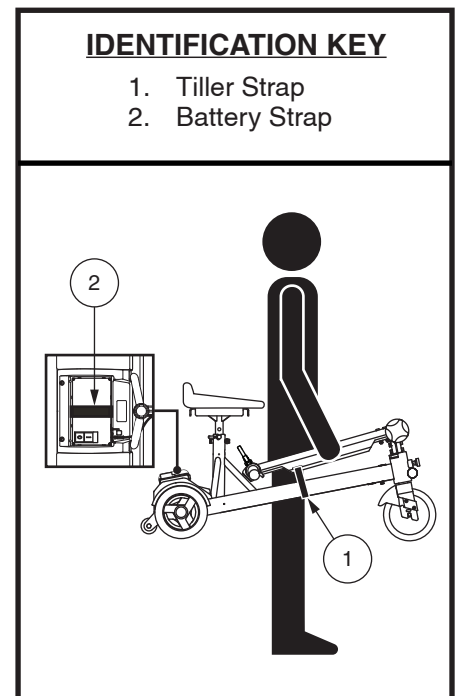

Figure 22. Folding for Transport
3. Wrap the tiller strap firmly around the main beam using the reusable hook and loop fastener to secure the straps. See figure 22.